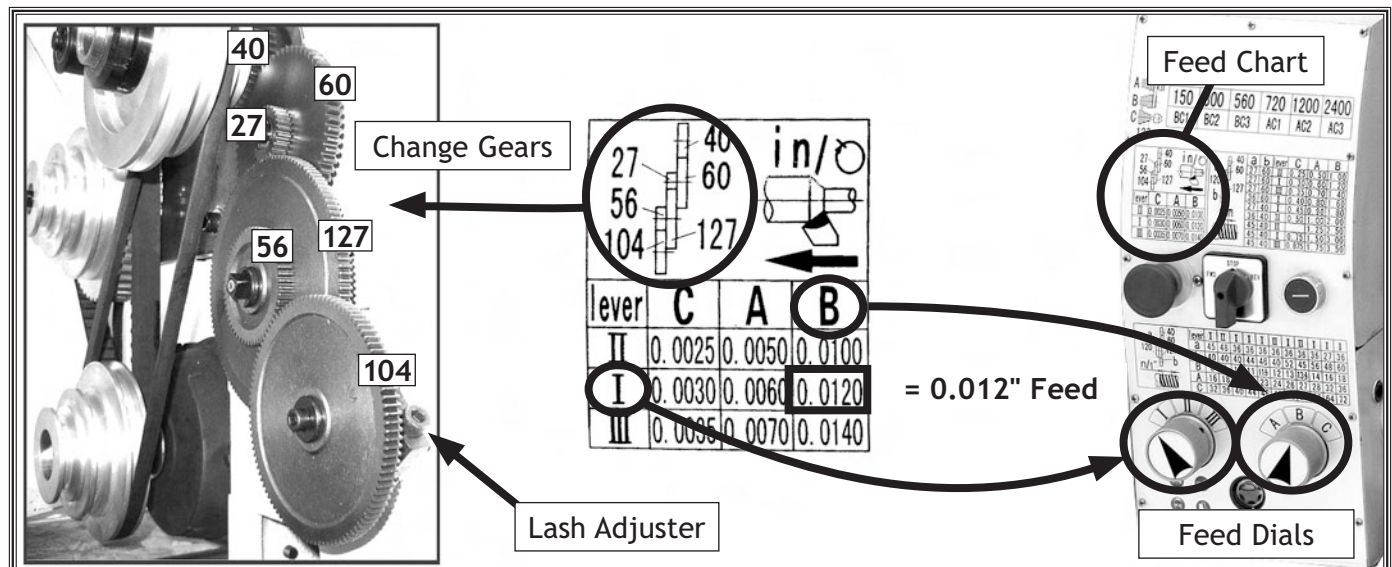

Figure 32. Power feed setup.
Use these steps to learn how to setup your lathe for a power feed operation. The example in **Figure 32** shows lathe setup for a power feed rate of 0.012". Remember, the carriage direction is reversed when spindle rotation is reversed.
2. Turn the feed dials to the numeral and letter indicated by the chart in **Figure 32**.
3. Using the chart in **Figure 32**, gather the required change gears.
4. Open the side cover and use a 6mm hex wrench to loosen the lash adjuster (**Figure 32**) and swing the change gear assembly out of the way.
5. Remove the spindle E-clips and cap screw, lubricate, and swap out the change gears in the order shown on the chart in **Figure 32**.